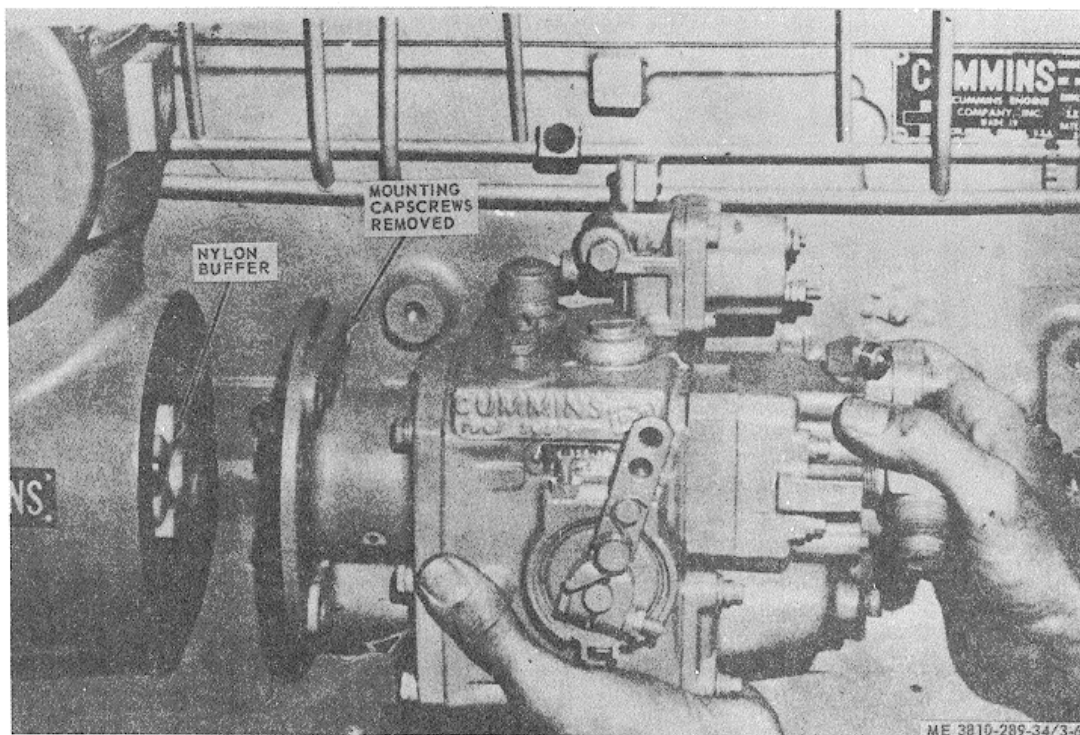

Figure 3-6. Fuel pump removal.
(3) Remove fuel pump mounting capscrews and lockwashers and lift fuel pump from engine (fig. 3-6). Discard gasket.
(4) Remove and discard buffer from coupling.